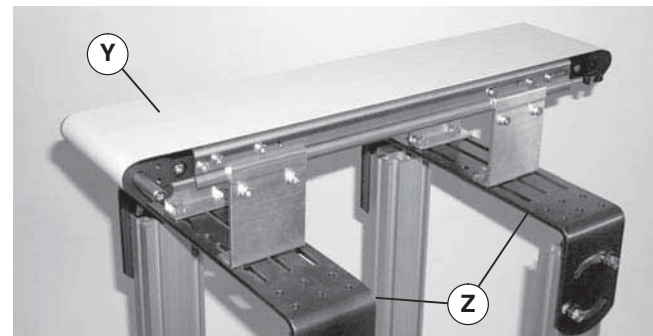

Figure 10
5. Position conveyor (Figure 10, item Y) on stands (Z).